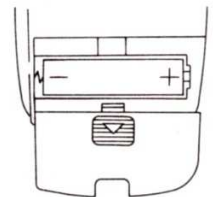

Fig. 6
1. Slide the battery case cover in the direction of the arrow to remove it (Fig. 6).